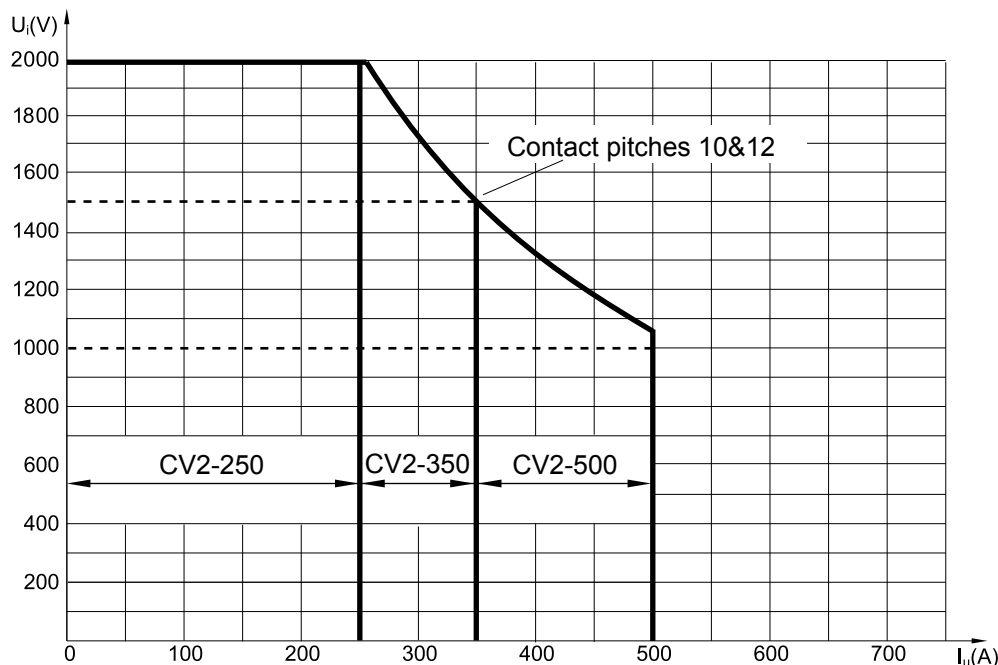

Fig. 5 Rated Switching Capacity of Three-phase CV2 OLTC
* Please refer to Fig.5 on page 6